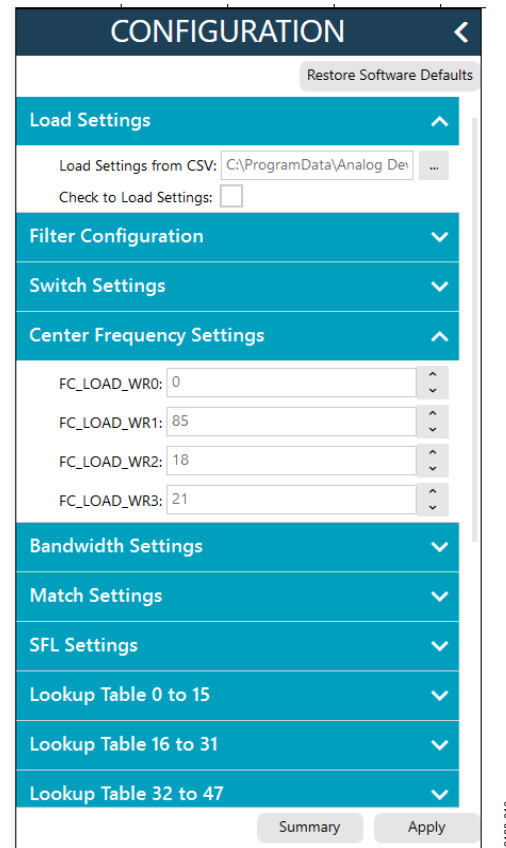

Figure 10. ADMV8052 **CONFIGURATION** Section
7. Use the **CONFIGURATION** section (see Figure 10) in the ACE software to initialize the chip. By default, the **ADMV8052_Register_Load_BW9.csv** file is loaded into this section. Click **Apply** to send the default settings to the chip and to allow the main diagram user controls to become editable.
3. Click the ... button next to **Load Settings from CSV** to select which .csv file to load (see Figure 10).